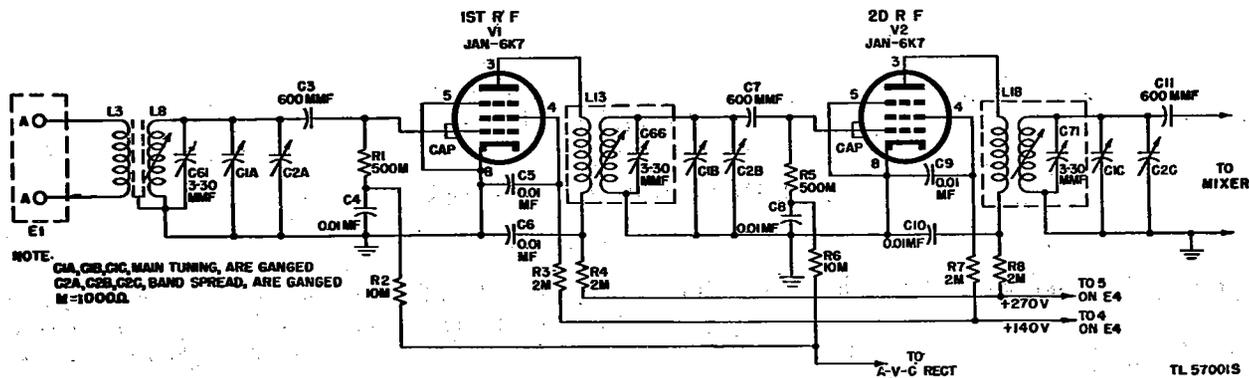

Figure 25. Radio Receiver BC-779-B, functional diagram of r-f amplifier.
## 59. R-F Amplifier (fig. 25)
For simplicity, only the circuits for the 2.5- to 5.0-mc band are shown and the band switching arrangement is omitted from figure 25. The band switching circuits are discussed in paragraph 68.
c. DIFFERENCES IN R-F CIRCUITS. (1) *Plate supply.* In Radio Receivers BC-779-(\*), BC-1004-(\*), and R-129/U, plate voltage is series-fed through resistance-capacitance (R-C) decoupling circuits and the r-f transformer primaries (fig. 25). In Radio Receiver BC-794-(\*), plate voltage is shunt-fed by means of choke L35 and 300-mmf capacitor C57 in the first stage, and choke L36 and 300-mmf capacitor C58 in the second stage (figs. 26 and 57). This method was chosen to keep plate voltage off the tuned impedance interstage coupling circuits L49, C99, and L50, C100, of the 20-40-mc band. Decoupling filters R4, C6, and R8, C10, are not included.